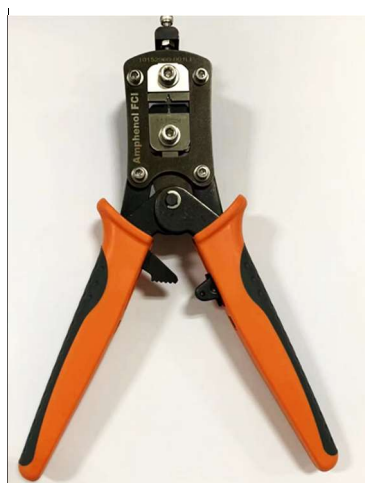

Figure 1
- 7.1 Open the tool by squeezing the handles together. At the end of the closing stroke, the ratchet mechanism will release the handles and the hand tool will spring open. See Figure 1.